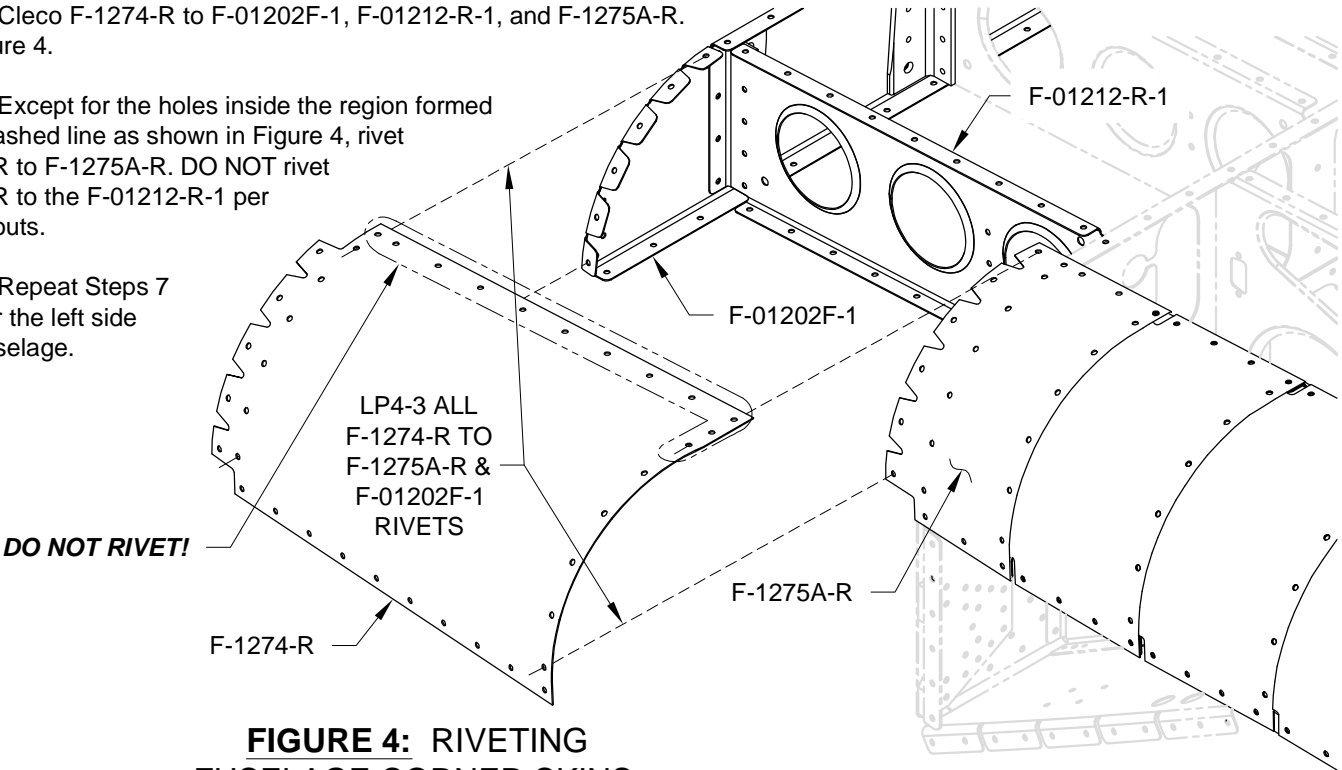

FIGURE 4: RIVETING FUSELAGE CORNER SKINS
Step 7: Cleco F-1274-R to F-01202F-1, F-01212-R-1, and F-1275A-R. See Figure 4.
Step 8: Except for the holes inside the region formed by the dashed line as shown in Figure 4, rivet F-1274-R to F-1275A-R. DO NOT rivet F-1274-R to the F-01212-R-1 per the call-outs.